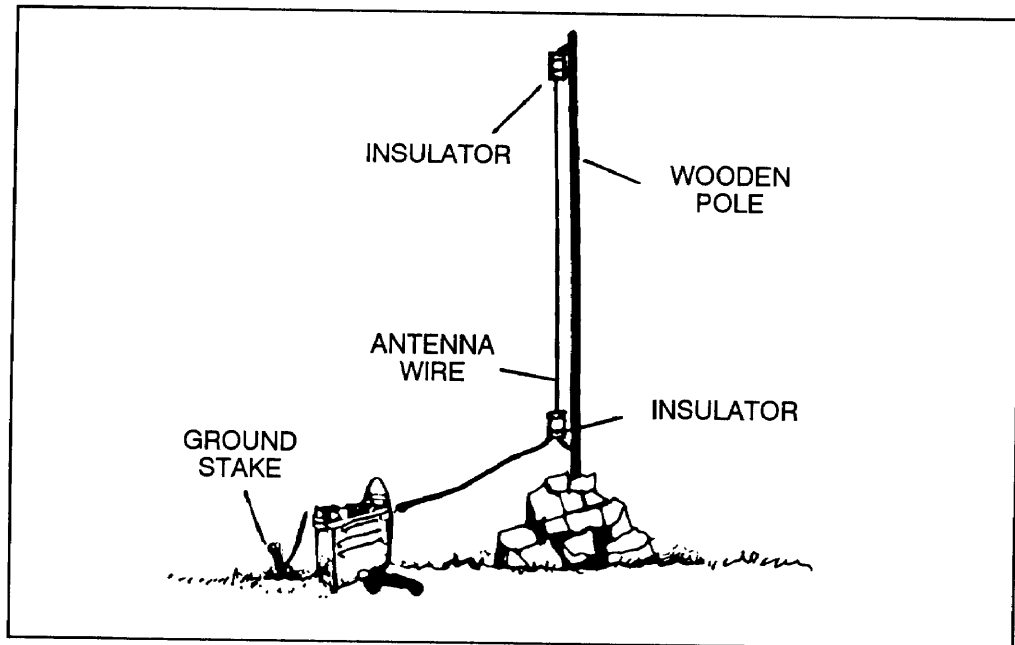

Figure D-14. Using field wire as an emergency whip.
(2) If the whip is badly damaged, a length of field wire (WD1/TT) of the same length as the original antenna can be used. The radio operator removes the insulation from the lower end of the field wire antenna, twists the conductors together, sticks them in the antenna base connector, and secures it with a wooden block. The antenna wire is supported by a tree or a pole (Figure D-14, page D-16).